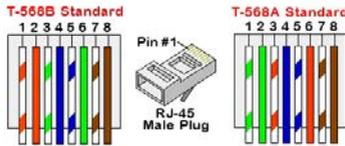

Figure 21: Standard cable wiring
- c. Insert the eight wires into an RJ45 connector (see *Figure 21*).